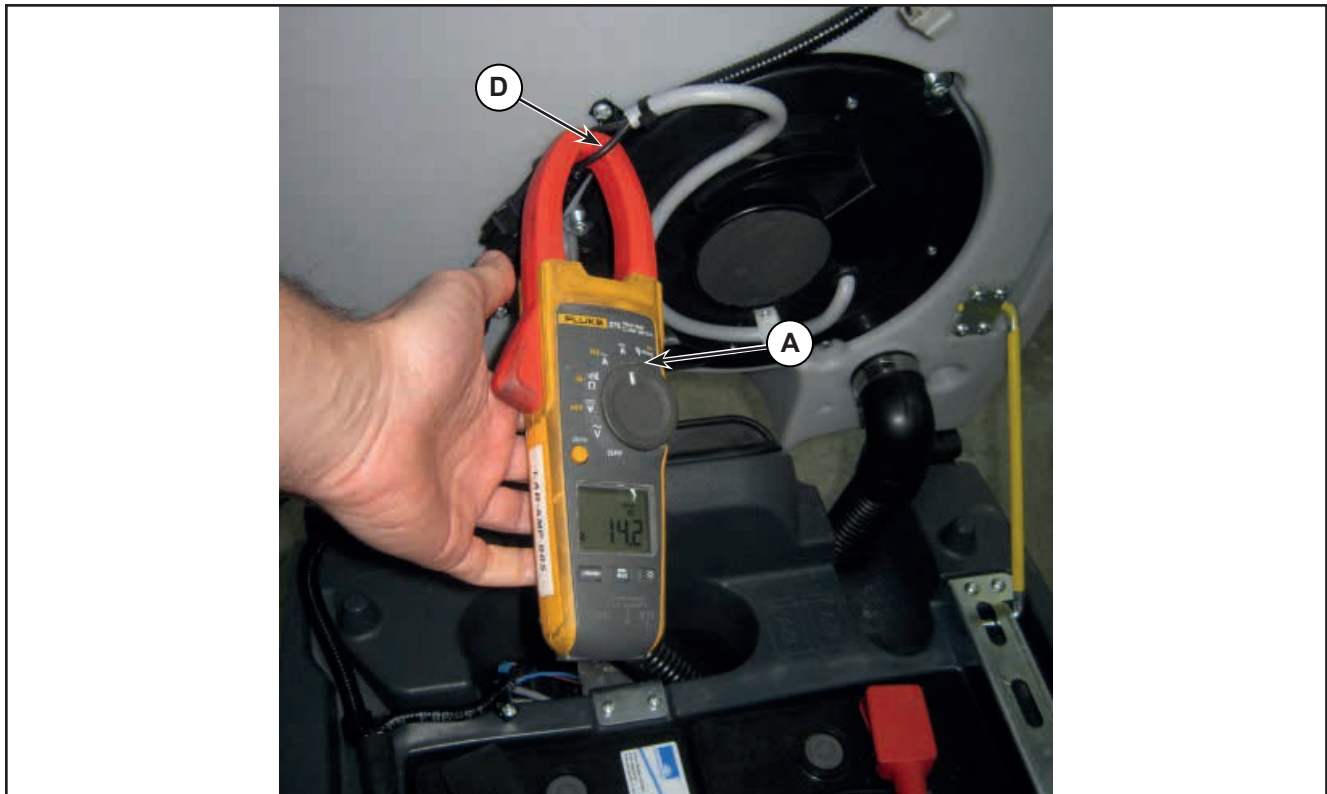

Figure 5:
2. Apply the amp clamp (A) to a cable (B) near the vacuum unit (Figure 5).